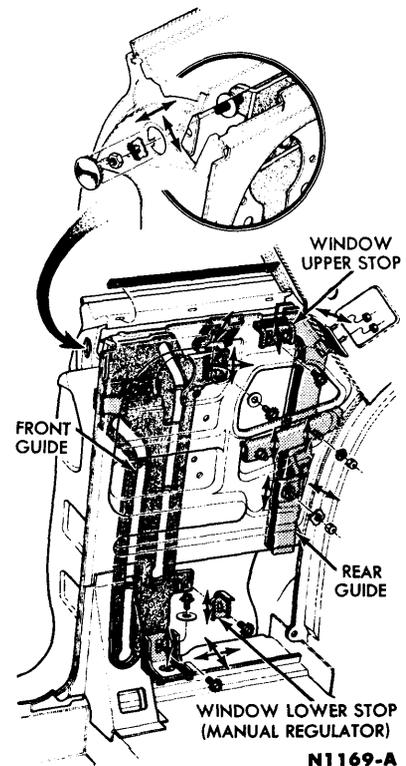

FIG. 12—Quarter Window Adjustments
12. Adjust the quarter window assembly as required (Fig. 12).